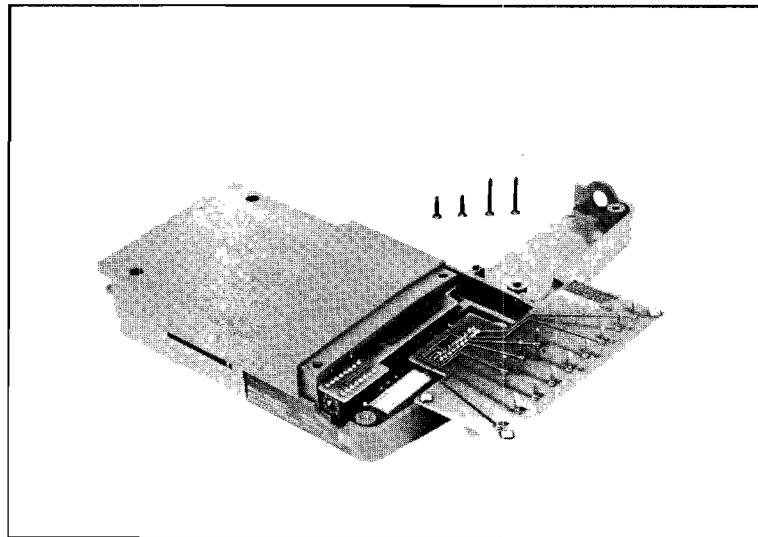

Figure 3-2:
4. Install the test connector in place of the cable assembly as shown in figure 3-2 below.